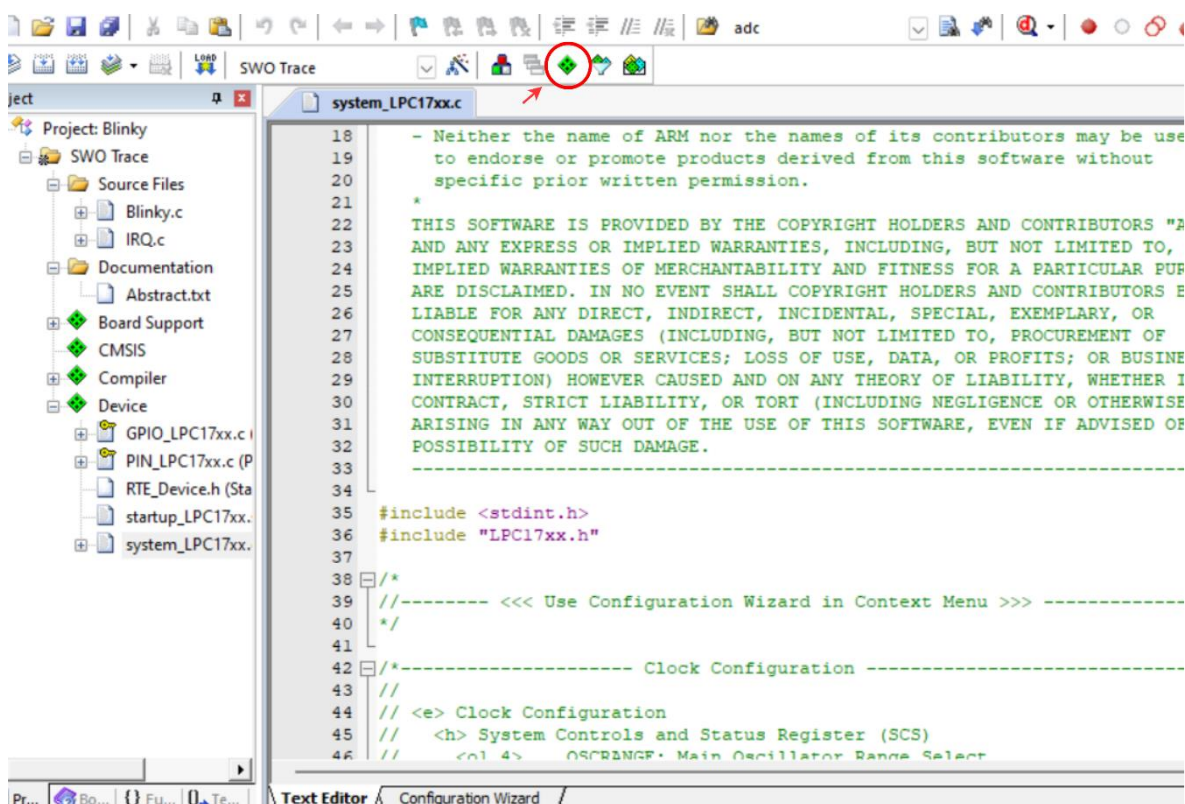

Fig. 7: Run Time Environment
8. Open the run time environment as shown by a red circle in Figure 7.